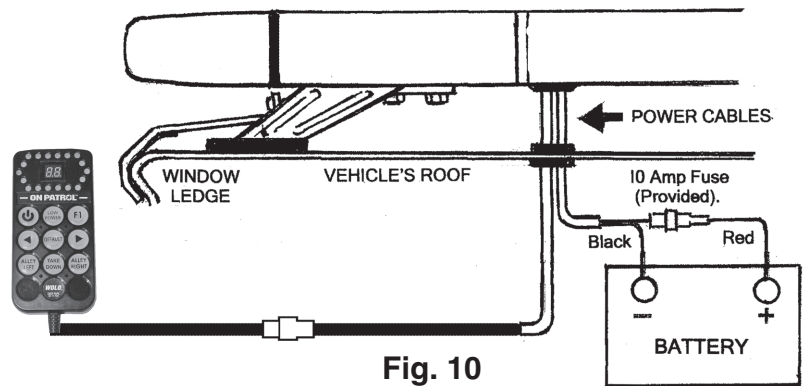

Fig. 10
**WIRING POWER CABLE See fig 10**